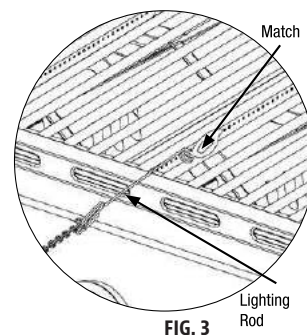

FIG. 3
4. If igniter does not light burner, use a lit match secured with the lighting rod (included with the grill) to light burners. Access the burners through the cooking grid and heat plates. Position lit match near side of burner (Fig. 3).